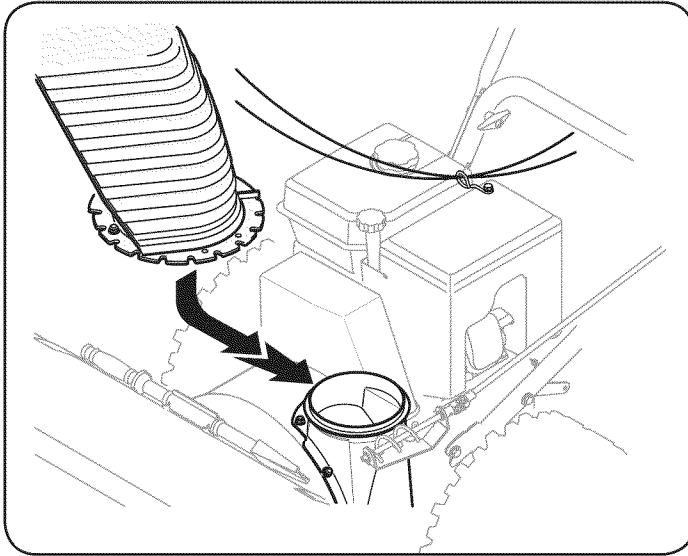

Figure 4
3. Place chute assembly onto chute base as shown in Figure 4. Make sure that the chute notches engage with the spiral end of chute directional control, and the two flange keepers are beneath the flange on the chute base.